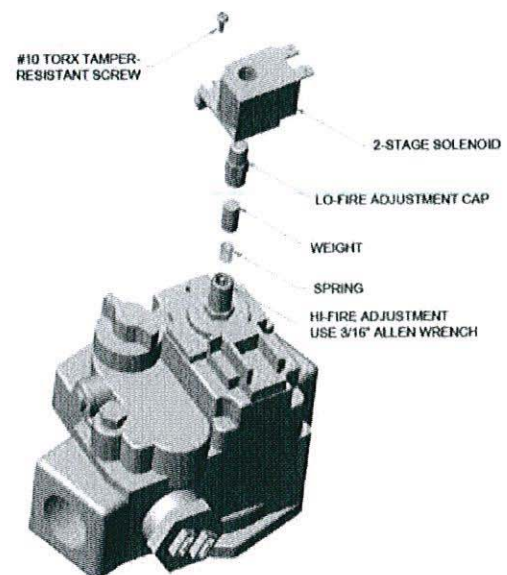

Fig. 47: 2-Stage Gas Valve Adjustment (Invensys)
5. Using a 3/8" wrench, carefully remove the aluminum valve-count # of turns when removing the cap. Be careful not to drop the cylinder (weight) or the small spring that is under the cap –see Fig. 47.
7. Using an Allen wrench, turn the screw clockwise to increase or counterclockwise to decrease high fire manifold pressure –see Fig. 47.